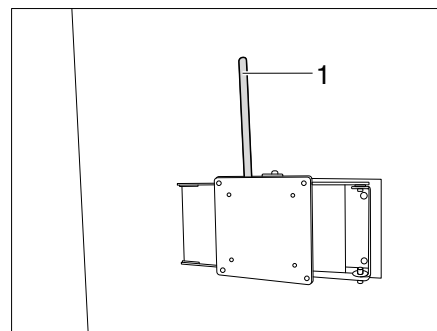

Fig. 140 Holder with jointed arm (variant 4)
- Pull the lever (Fig. 140,1).
- Push the lever (Fig. 140,1) back up into the initial position to lock.